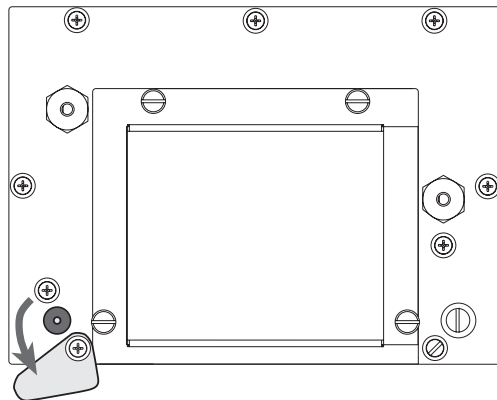

Figure 2-6. AC Adapter Port Cover
2. Loosen the bottom screw, then rotate the port cover to expose the AC adapter port (see Figure 2-6).